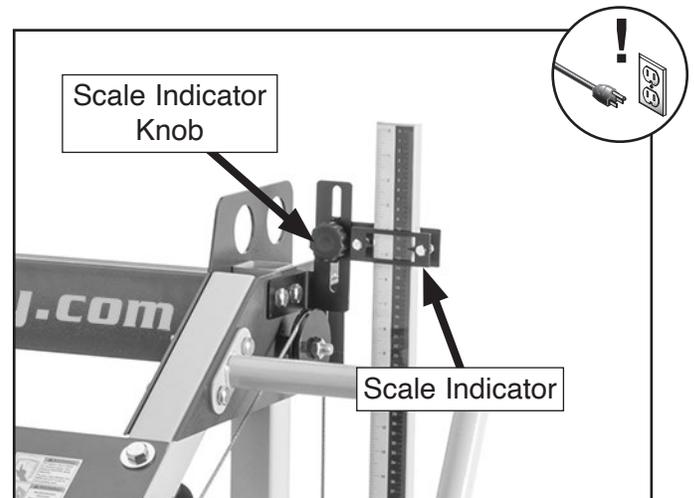

Figure 107. Location of scale indicator knob.
- Loosen knob shown in **Figure 107**, adjust indicator to value measured in **Step 4**, then tighten knob to secure.